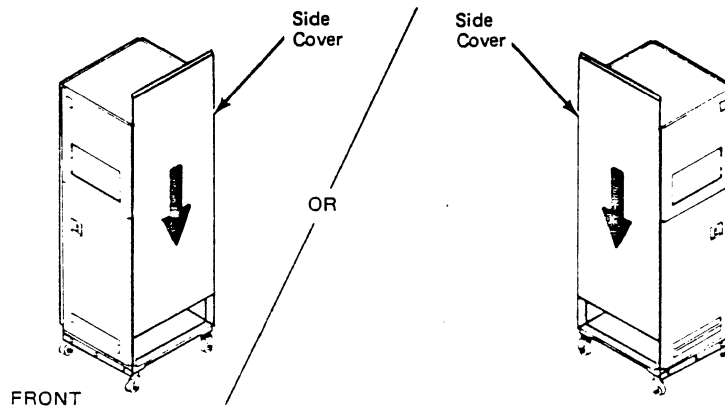

Figure 7-15. Side View of Last Extension Unit
- b. Lift the cover up and then slide it down into position on the side of the extension unit (Figure 7-15).